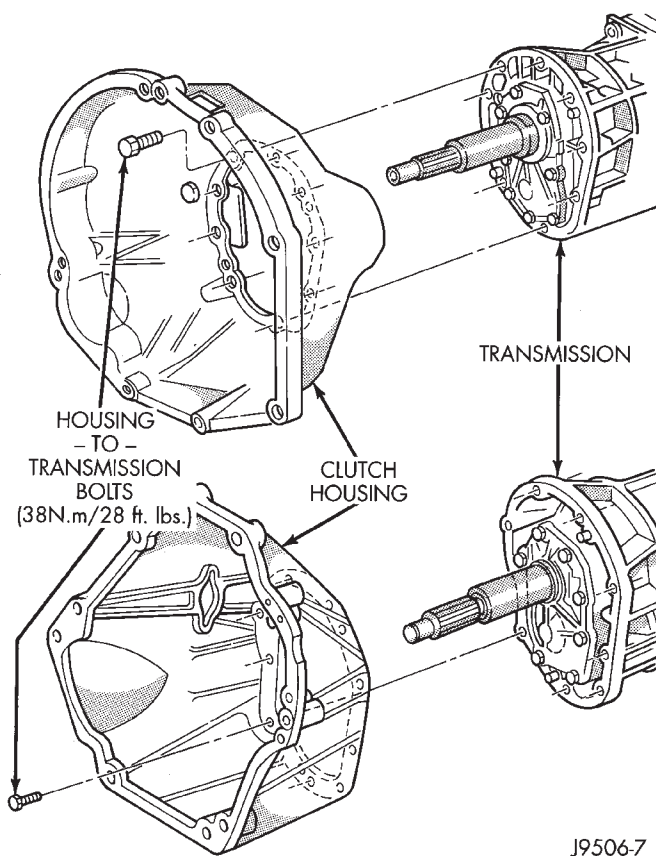

Fig. 10 Clutch Housing
- (24) Remove clutch housing brace rod.
- (25) Remove clutch housing-to-engine bolts.
- (26) Pull transmission jack rearward until input shaft clears clutch. Then slide transmission out from under vehicle.
- (27) Remove clutch release bearing, release fork, and retainer clip.
- (28) Remove clutch housing from transmission (Fig. 10).
- (1) Install clutch housing on transmission. Tighten housing bolts to 37 N·m (27 ft. lbs.) torque.
- (2) Lubricate contact surfaces of release fork pivot ball stud and release fork with high temp grease.
- (3) Install release bearing, fork, and retainer clip.
- (4) Position and secure transmission on transmission jack.
- (5) Lightly lubricate pilot bearing and transmission input shaft splines with Mopar® high temp grease.
- (6) Raise transmission and align transmission input shaft and clutch disc splines. Then slide transmission into place.
- (7) Install and tighten clutch housing-to-engine bolts to 38 N·m (28 ft. lbs.) torque (Fig. 10). **Be sure**